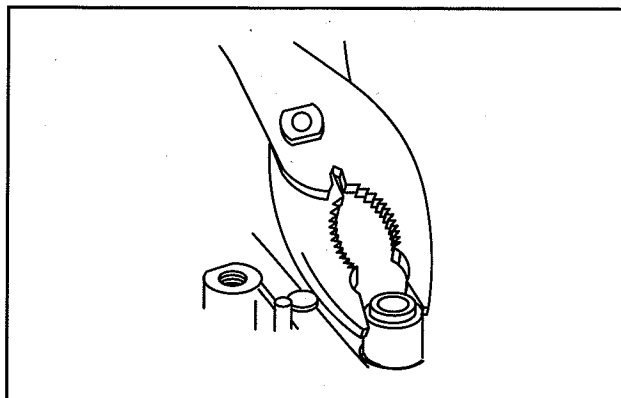

Fig. 9 – Removing Seals
3. Remove and discard valve stem seals, Fig. 9.